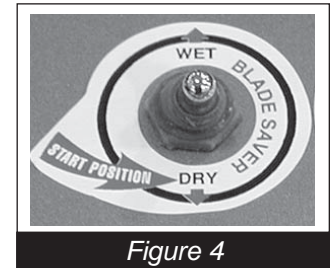

Figure 4
- Blade Saver switch (*Figure 4*) must be in the DRY position or engine will not start.